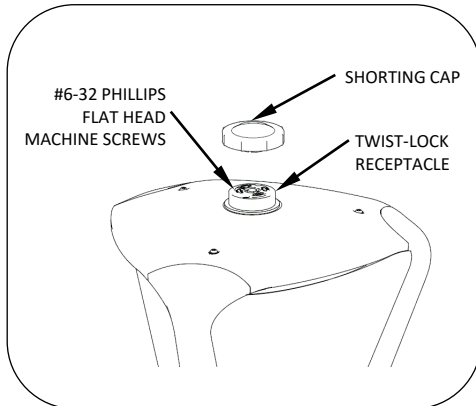

Fig. 6 – Optional twist lock receptacle
10. If twist lock receptacle is specified, remove shorting cap and install photo-eye control (not included), see Fig.6.